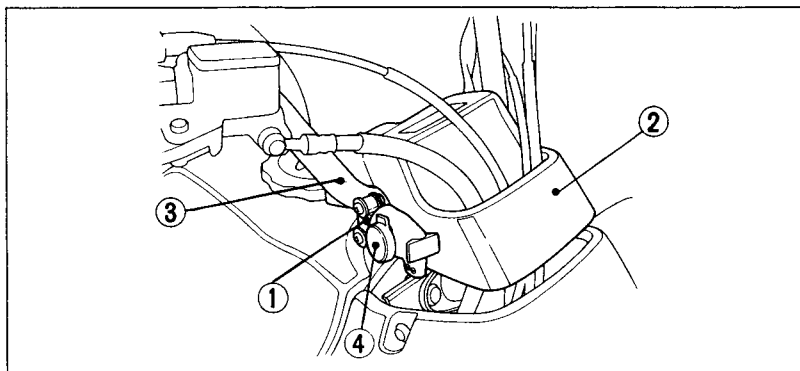

Fig. 2-24
The DC receptacle (1) (Fig. 2-24) is attached to the right handlebar, near the handlebar cover (2). The receptacle provides 12 V DC power at a maximum of 180 watts (15 amps). If you exceed this limit, you may blow the fuse. (For information on fuses, and how to replace a fuse, see pages 111—112.)
(1) 12 V DC receptacle
(2) Handlebar cover
(3) Right handlebar
(4) Special DC plug
Electrical accessories may be connected to the receptacle by using the special DC plug (4) (Fig. 2-24) that comes attached to the receptacle. Be sure to use only accessories that are designed for 12 V DC power.
1. Remove the plug (4) from the receptacle (1) (Fig. 2-24).